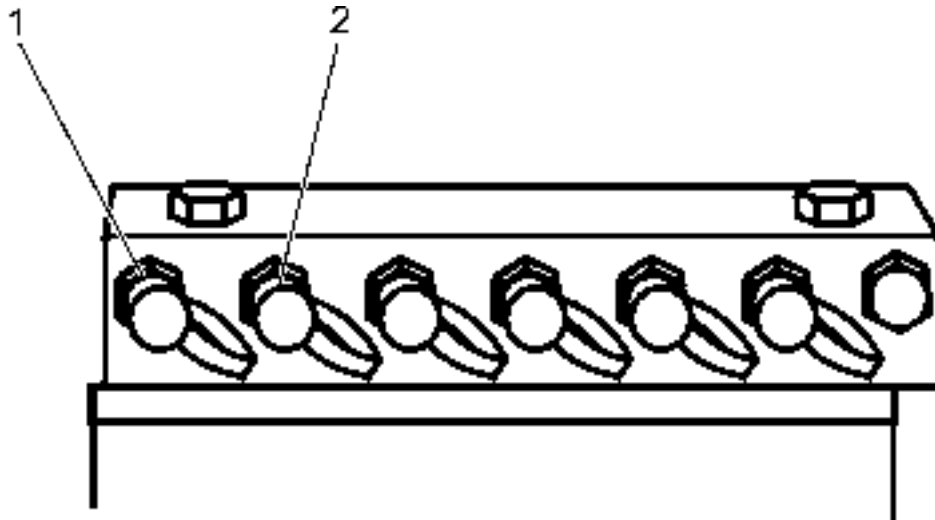

Fig. 3.2. Diagnostic Center – Tow and Pressure Check Ports
The diagnostic center (Fig. 3.2) has a quick couplers R_B and L_B for externally applying hydraulic pressure to the LH and RH brake spools to release them prior to towing per below specified procedure.
2. Open the diagnostic center cover on the LH side of the machine and connect a lubricating fitting and pressure gauge to one of the quick couplers (port 1 or 2, Fig. 3.2).
4. Pump sufficient grease into one of the ports (1 or 2 in Fig. 3.2.) to release the brakes. Connected pressure gauge should show the pressure of 830 - 1030 [kPa]. The amount of grease required depends on the amount of pressure dissipation in the system.